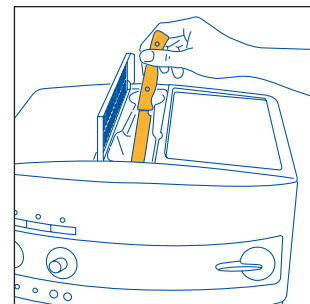

Fig.20
**NOTE 5:** If you add more than one measure of pre-ground coffee and the funnel blocks, use a knife to push the coffee down (Fig. 20) and then remove and clean the infuser and the machine, as described in paragraph 10.2 "Cleaning the infuser".